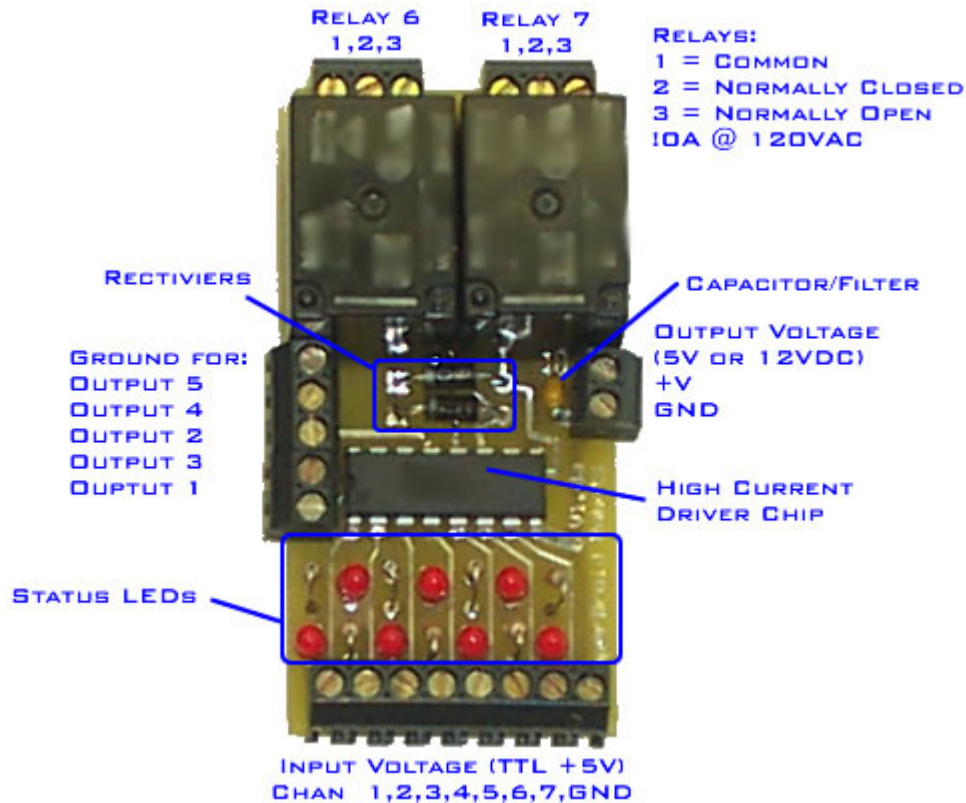

Figure 2: TTL High Current Driver with 2 Power Relays
1. Start by laying the board out in front of you. The Label should be on the bottom right topside. Refer to Figure 2.
2. Insert all the LEDs as shown in Figure 2 in a staggered location. The long leg of the LED should be towards the TTL Input edge of the board (they will not work if put in the other way).
3. Insert all the resistors as shown in Figure 2. The orientation of the resistor is not important.
on it should go in the square pad hole (face towards the left edge of the board as shown in Figure 2).
5. Insert the capacitor as shown in Figure 2. Orientation is not important.
6. Insert the Relays as shown in Figure 2. All the relays should be placed in their locations at the same time before soldering. Push the relays down so they are all flat and start soldering the terminals, checking to make sure the relays stay flat.
7. Install the Screw Terminals (if provided) as shown in Figure 2.
8. Insert the high current driver IC. The orientation is important. The chip will be shorted and will not work if put in wrong. Pin one goes in the square pad hole such that the notch on the chip is closest to the label on the board. Refer to Figure 2.
9. Attach either 12VDC or 5VDC to the Output Voltage using the polarity shown in Figure 2. Turn on the power, no sparks or smoke should appear at this time.